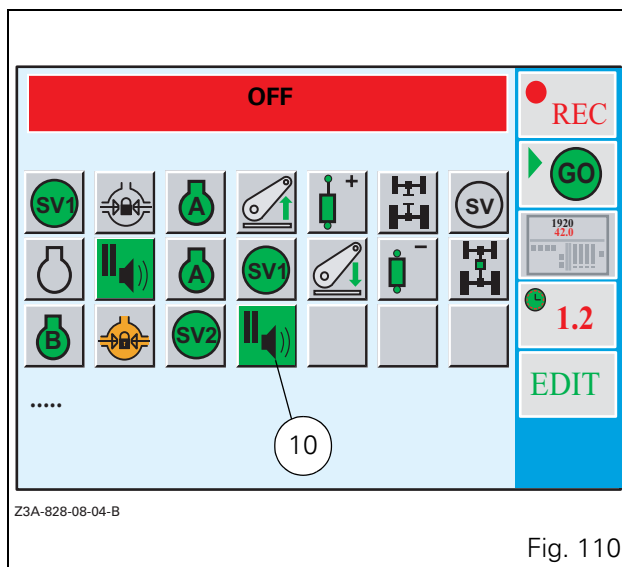

Fig. 110
- Press the key «6 (Stop) as soon as the furrow start manoeuvres are complete. A new pause is automatically inserted following the recorded actions (10 Fig. 110).